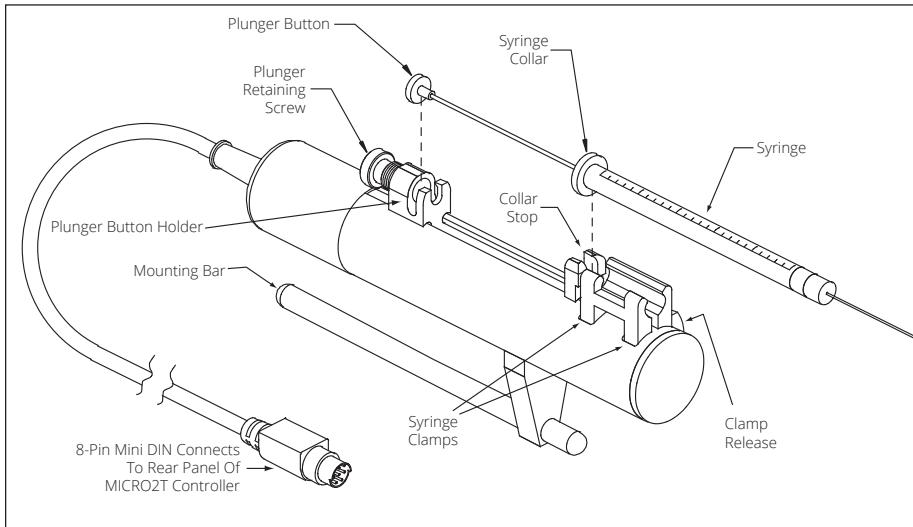
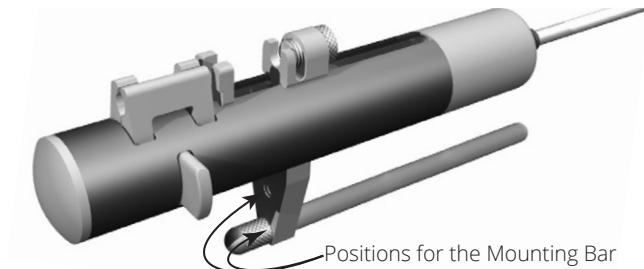

Fig. 3—The parts of the pump are labeled
Fig. 4—Unscrew the mounting rod to reposition it.
The **UMP3** can be mounted directly onto a stereotaxic frame or a micromanipulator, using the mounting bar (Fig. 3). The mounting bar may be unscrewed and repositioned, if necessary. Two positions are available on the under side of the **UMP3** (Fig. 4).
3. Then, place the syringe collar into the collar stop (Fig. 3).